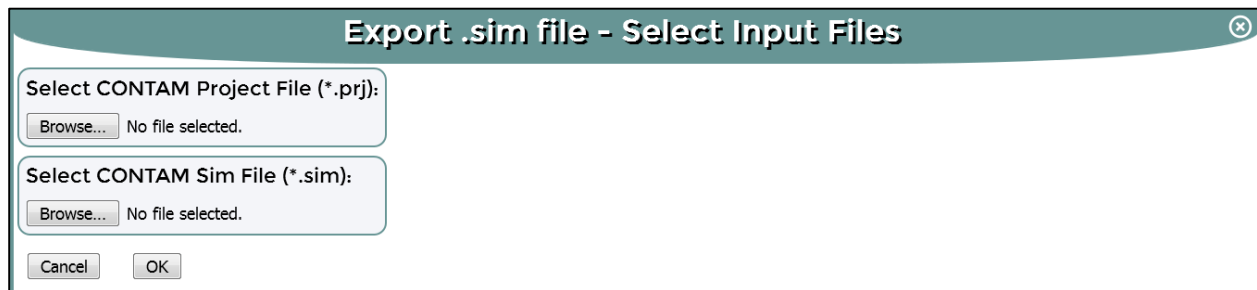

Figure 3. Selecting CONTAM project (.prj) and simulation results (.sim) files
2. Select both a CONTAM project (.prj) and simulation results (.sim) file (Figure 3).